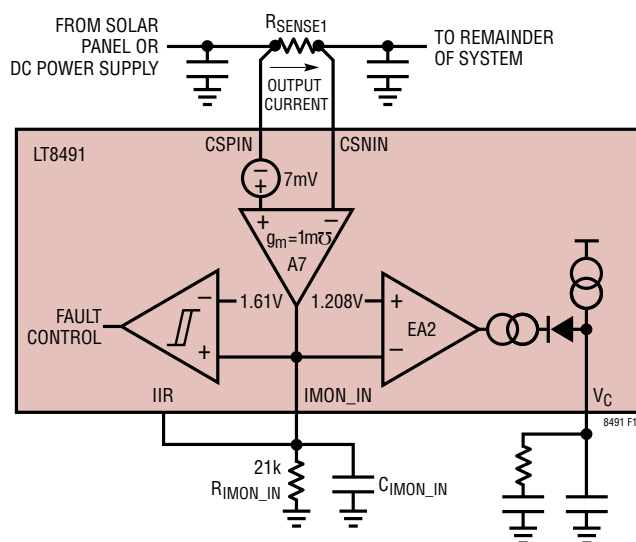
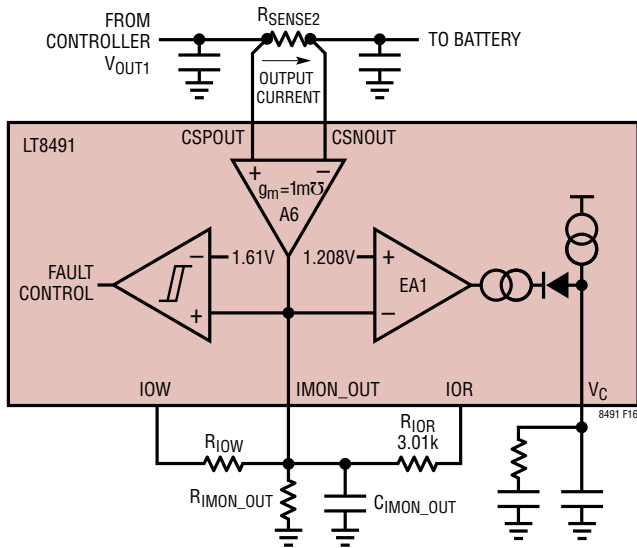
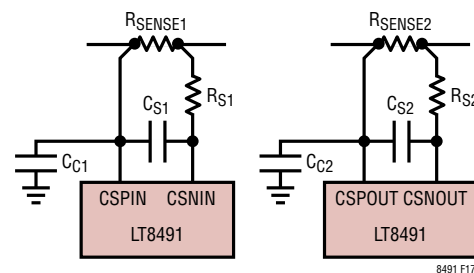

Figure 15. Input Current Regulation Loop
Figure 16. Output Current Regulation Loop
Figure 17. Recommended Current Sense Filter
In addition, note that the LT8491 uses the same circuit (shown in Figure 15) to measure the input current as to limit it. The input current is measured by an A/D conversion of the IIR pin which is connected to IMON\_IN and is proportional to input current. The digitized input current measurement is used to locate the maximum power point of the solar panel. Setting a higher input current limit reduces the resolution of the digitized reading of the input current. Avoid setting the input current limit significantly higher than necessary, as this may affect the accuracy of the maximum power point calculations.
**Configuring the Input Current Sense and Limit:** The input current is sensed through  $R_{SENSE1}$  as shown in Figure 15. The current through  $R_{SENSE1}$  is converted to a voltage on the IMON\_IN pin according to the following equation:
The maximum battery charging current, commonly referred to as C, is configured with the output current sensing and limiting circuit. The output current is sensed through  $R_{SENSE2}$  and converted to a proportional current flowing out of the IMON\_OUT pin (see Figure 16). An A/D measurement of the IOR pin voltage is used to determine
The C\_SX and R\_SX current sense filter components shown in Figure 17 can improve the accuracy of the input and output current measurements at low average current levels. Amplifiers A6 and A7 (Figure 15 and Figure 16) can only amplify positive R\_SENSE voltages. Although the average R\_SENSE voltage is always positive, the voltage ripple at low average current levels may contain negative components that are averaged out by the filter. Recommended values for R\_S1, R\_S2 and C\_S1, C\_S2 are 22Ω and 470nF.